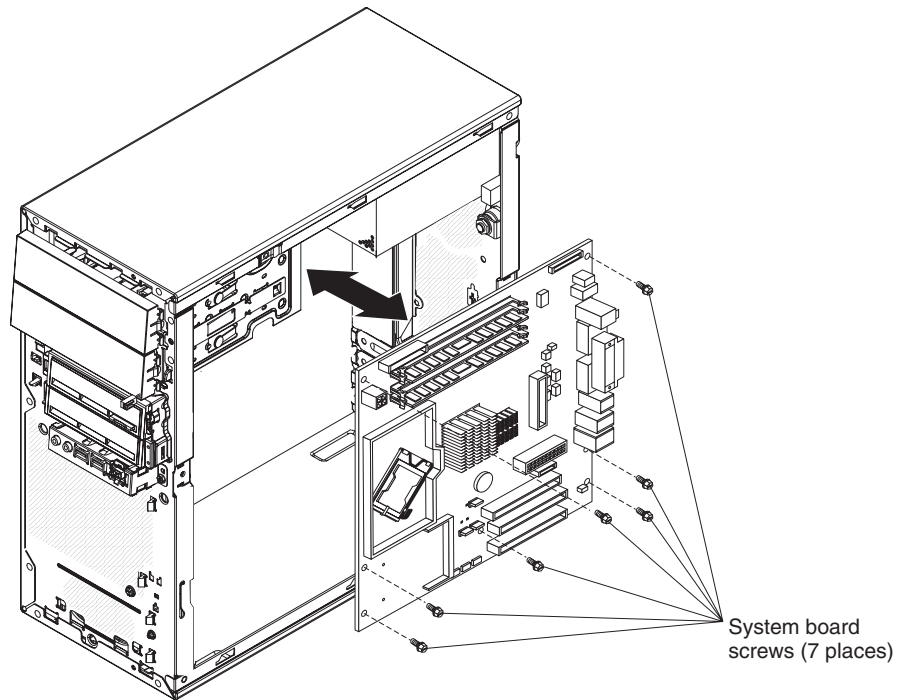

Figure 54. Removing the system board
13. Remove the seven screws that secure the system board (see Figure 54 on page 122).